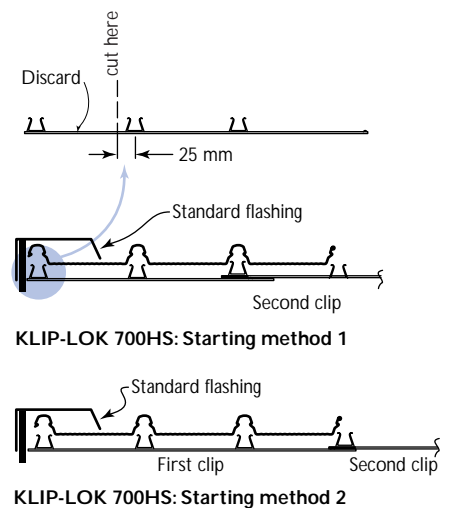

Figure 2
- 1 Lay wire mesh or chicken wire mesh on the purlins and weld or screw the wire mesh to each purlin. (Figure 2)